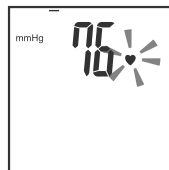

Fig.14
5. Pulse Symbol «♥» is displayed as pulse is detected (fig.14).